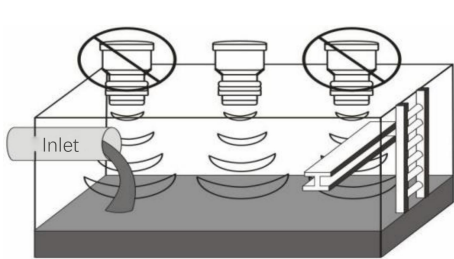

Figure 1
6.1.1 The probe generates both an ultrasonic pulse wave and a detection echo, which propagates from the surface of the probe in a certain conical wavefront. In this area, there should be no obstruction and away from the inlet. The installation position of the probe should be chosen in a position where there is no obstacle between the emitting surface of the probe and the medium to be measured. See Figure 1.